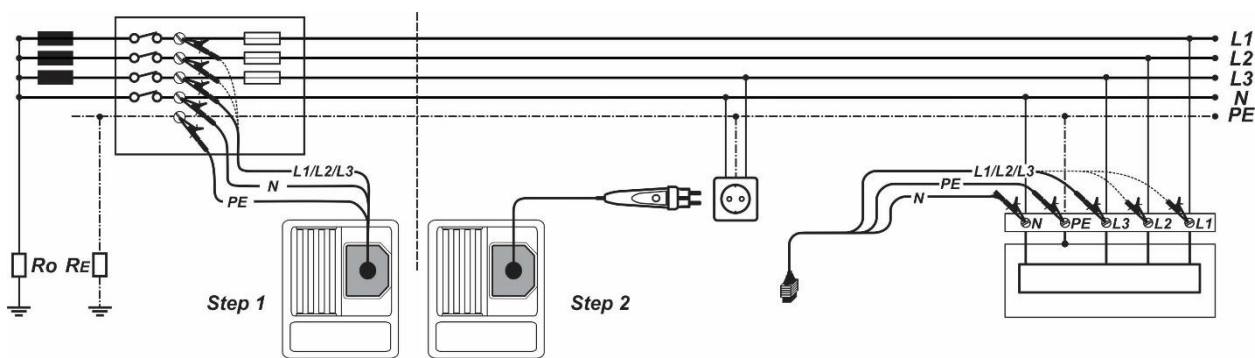

Figure 6.4: Auto-sequence setup
- ❑ **Connect** the test leads to the origin of electrical installation (see Figure 6.4 – step 1)(optional).
- ❑ **Connect** test leads to the item to be tested (see Figure 6.4 – step 2).